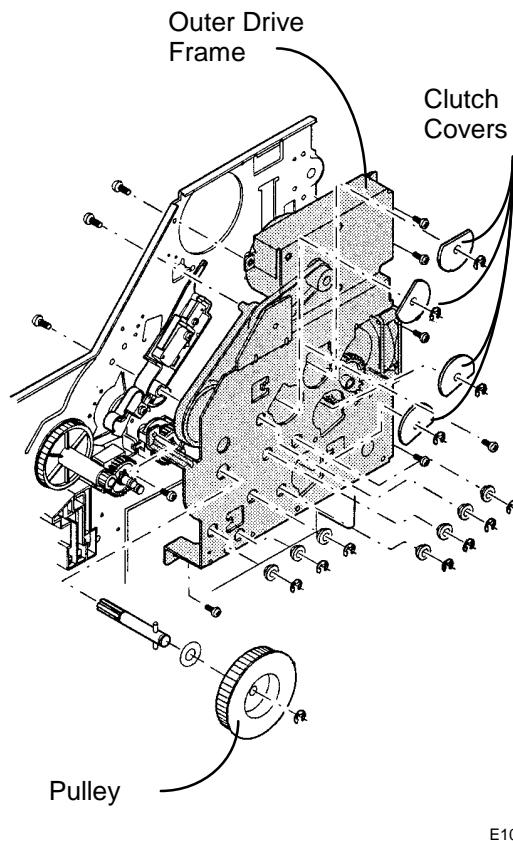

Figure 1. Removing the Outer Drive Frame
3. (Figure 1): Remove the Outer Drive Frame.